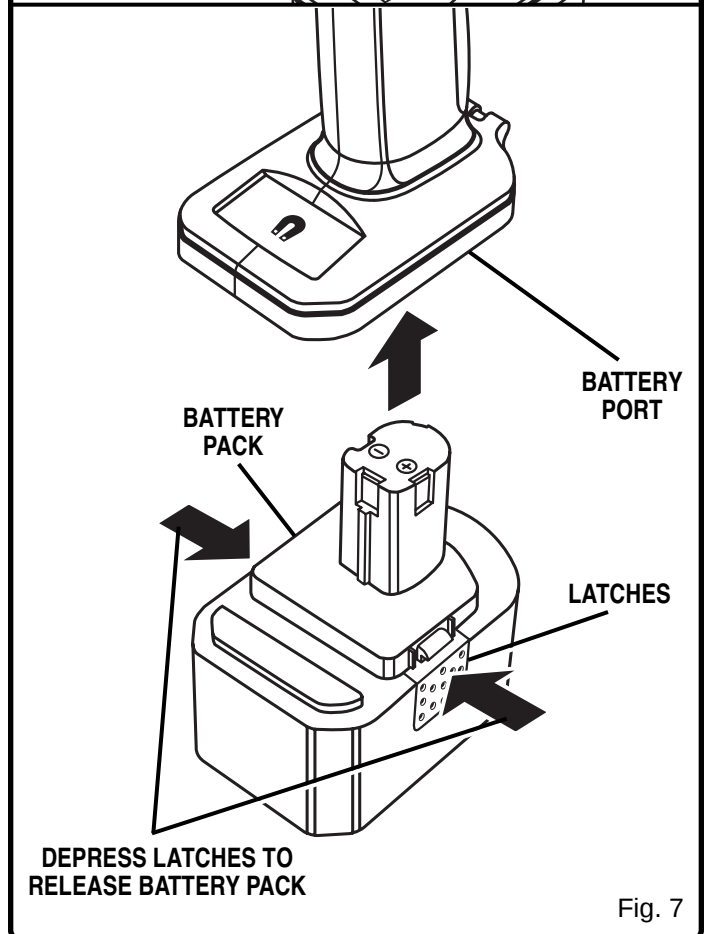

Fig. 7
- Place the battery pack in your drill. Align raised rib on battery pack with groove in drill's battery port. See Figure 7.
- Locate latches on side of battery pack and depress both sides to release battery pack from your drill. See Figure 7.